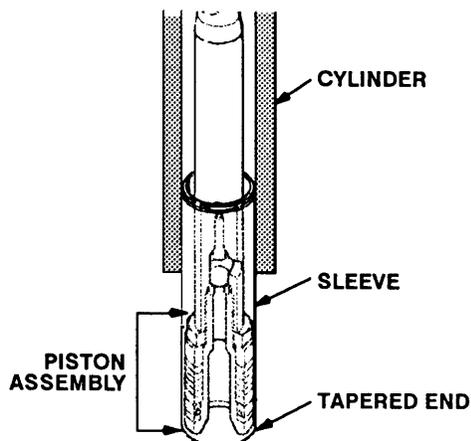

**Fig 28**
7. Use a wrench to **CAREFULLY** tighten the nut (211) against the piston rod to 19 ft-lb (25 N.m). See Fig 28.